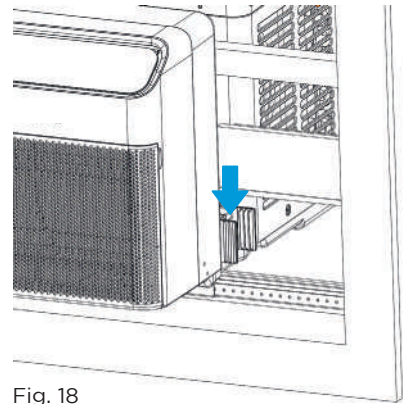
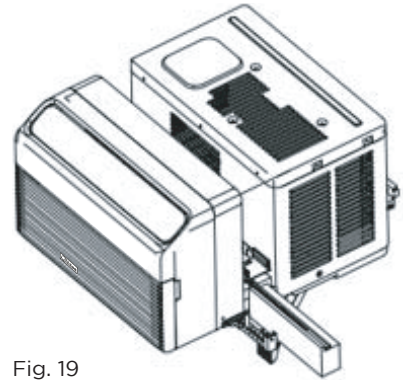

Fig. 18
Fig. 19
- D. In figure 18, the blue arrow points to the spot where the foam should be installed. Figure 19 shows the final installed position of the foam.